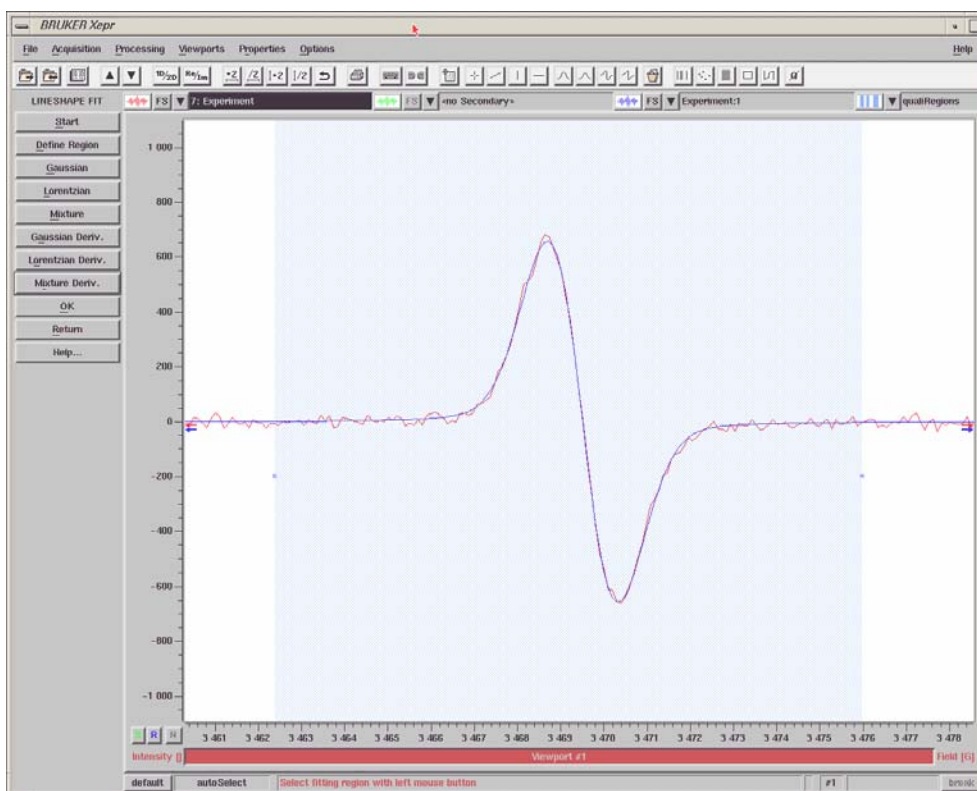

Figure 6-52 The fitted curve.
8. **Fit the curve.** Click Fit in the fitting parameters dialog box. The result will be displayed in the **Result** dataset. (See Figure 6-52.) If you are not satisfied with the results, you can manually change these parameters by either turning the turning knobs or typing in numbers and re-running the fit. If you are satisfied with the result you can click Close to exit the fitting parameters dialog box.